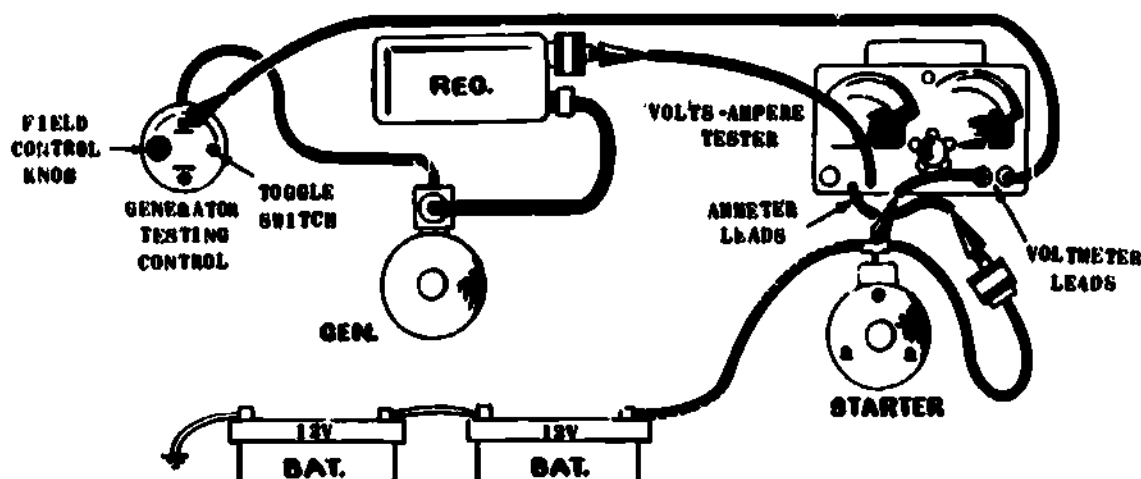

Fig 1-16. Insulated charging circuit resistance test.
2. Insulated circuit resistance test (fig 1-16). Excessive resistance in the charging circuit will cause undercharging of the batteries and an abnormal load on the generator and generator regulator.